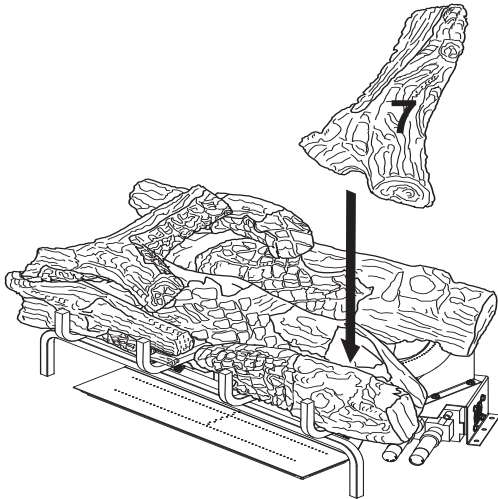

Figure 34 - Installing Log # 7
7. Place the right crossover log (#7) on top of the middle log and rear log as shown in **Figure 34, Page 21**. Match the round peg on the top of the rear log with the round hole on the bottom of the right crossover log and square peg on the top of the middle log with the square hole on the bottom of the right crossover log.